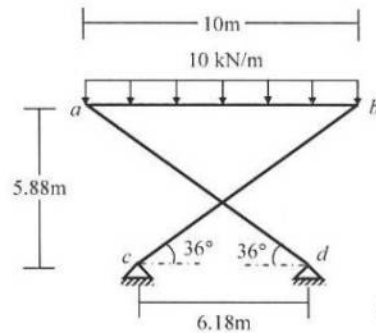

Fig. 7
7. Use the Flexibility Method (considering flexural and axial deformations only) to draw the Bending Moment Diagram of the frame $abcd$ loaded as shown in Fig. 7